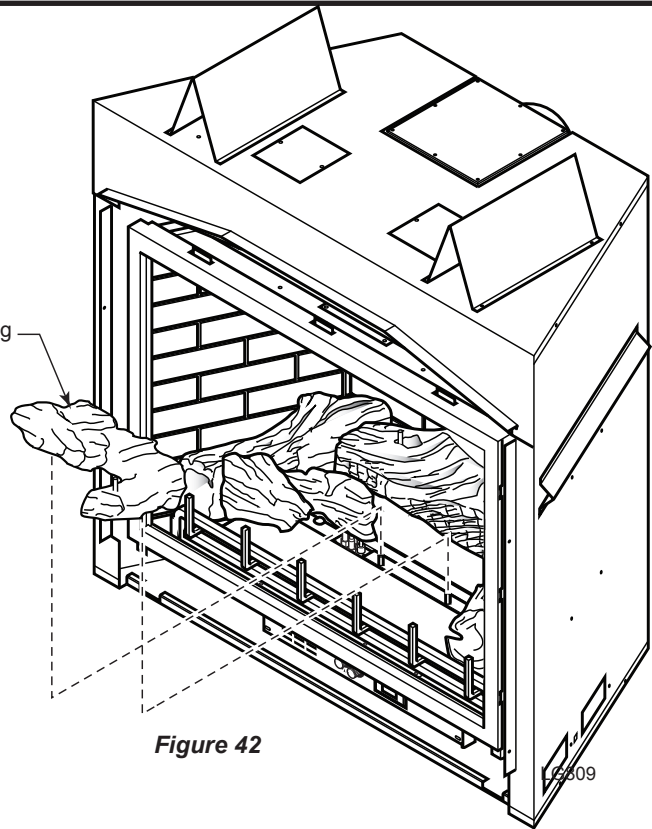

Figure 42
7. Place right mid log (#7) on two right pins on burner assembly. *Figure 42*